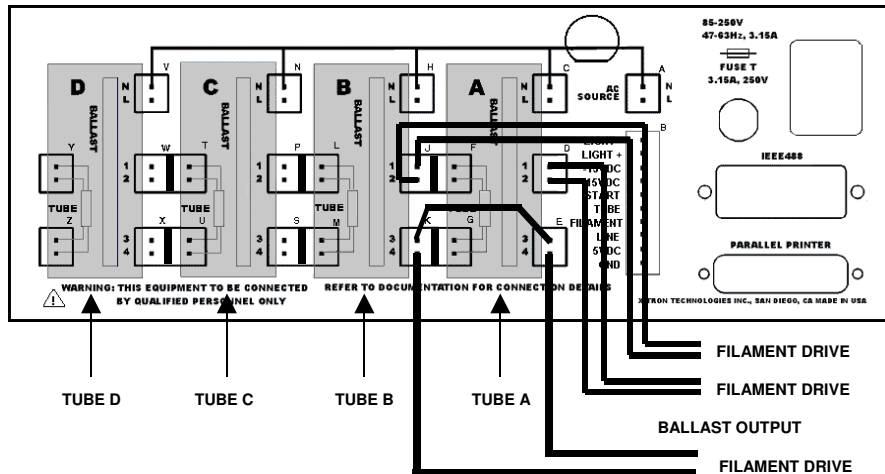

Figure 11. Example of Series Filament Outputs from a Ballast
- Wire the filament output from the ballast to two (or more) sections of the 2574R connections in parallel as shown in Figure 11.